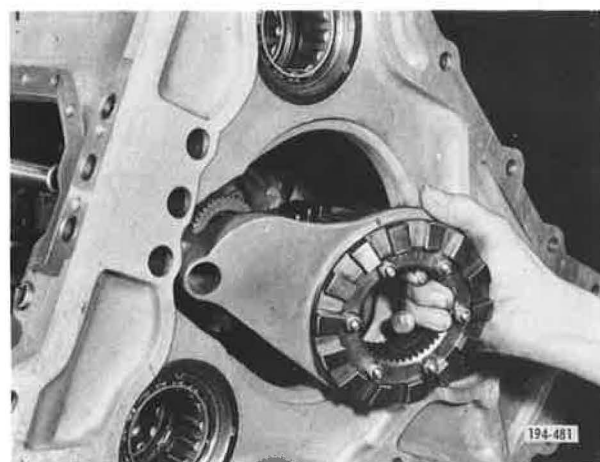
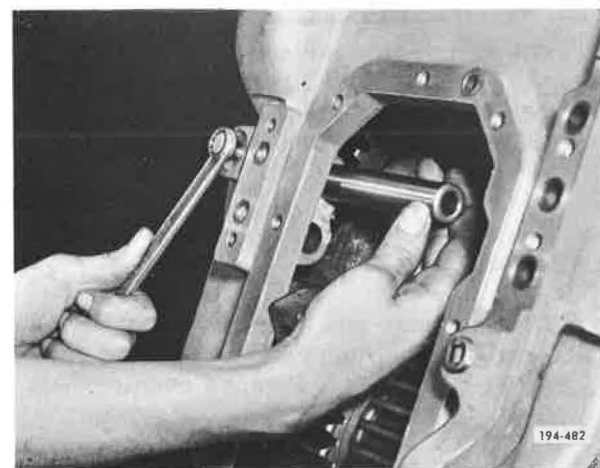

Figure 5-577. Removing Direct and Lo-Range Sliding Clutch
Figure 5-578. Removing Shifter Rail Capscrew
2. Slide Direct and Lo-range sliding clutch off shift rail and mainshaft. See Figure 5-577. Remove Direct and Lo-range shifter rail cap-screw and remove shift rail. See Figure 5-578.